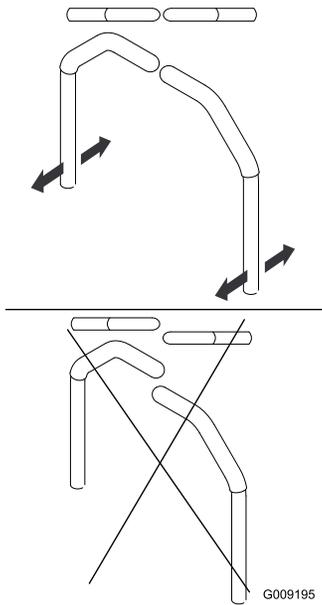

Figure 91
4. Align the levers in the front-to-rear position by bringing the levers together to the NEUTRAL position, and slide them until they are aligned, then tighten the bolts (Figure 91).